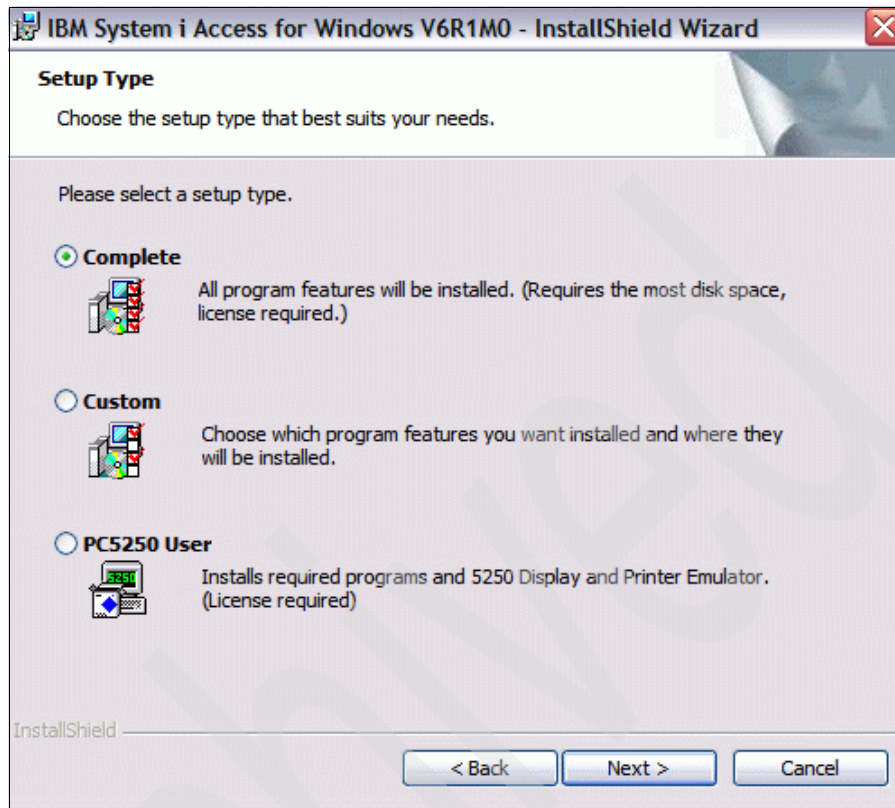

Figure 7-15 IBM System i Access for Windows Setup Type
6. Depending on the complexity of functions, several choices are available as shown in Figure 7-15 on page 259. The normal case is a complete installation. Experienced administrators can select the custom installation to save disk space, or install determined functions only.